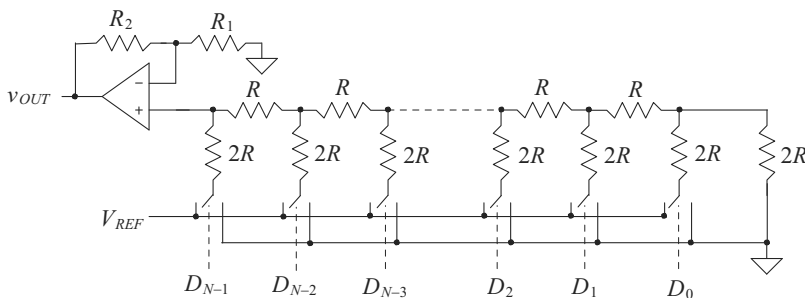

Figure 29.52 DAC used in Problem 29.6.
- 29.6** The circuit illustrated in Fig. 29.5 is known as a current-mode R - $2R$ DAC, since the output voltage is defined by the current through R_f . Shown in Fig. 29.52 is an N -bit voltage-mode R - $2R$ DAC. Design a 3-bit voltage mode DAC and determine the output voltage for each of the eight input codes. Label each node voltage for each input. Assume that $R = 1\text{ k}\Omega$ and that $R_2 = R_1 = 10\text{ k}\Omega$ and $V_{REF} = 5\text{ V}$.